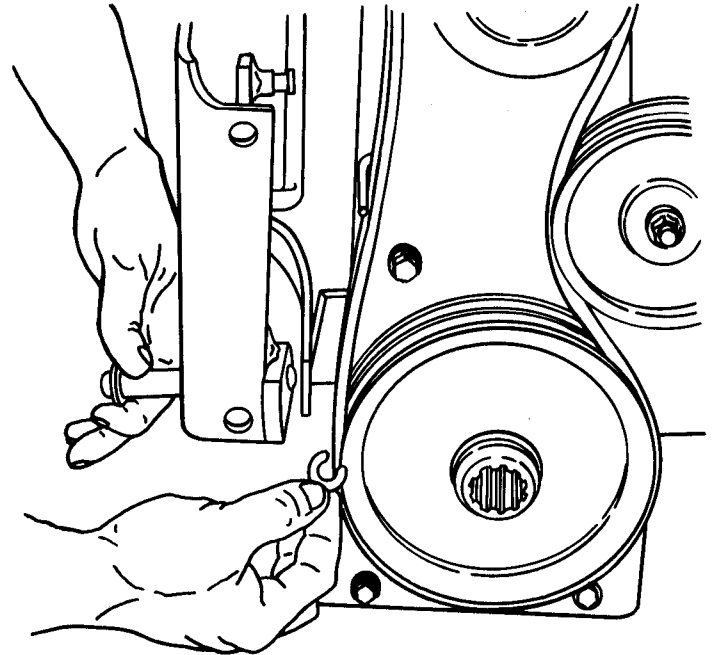
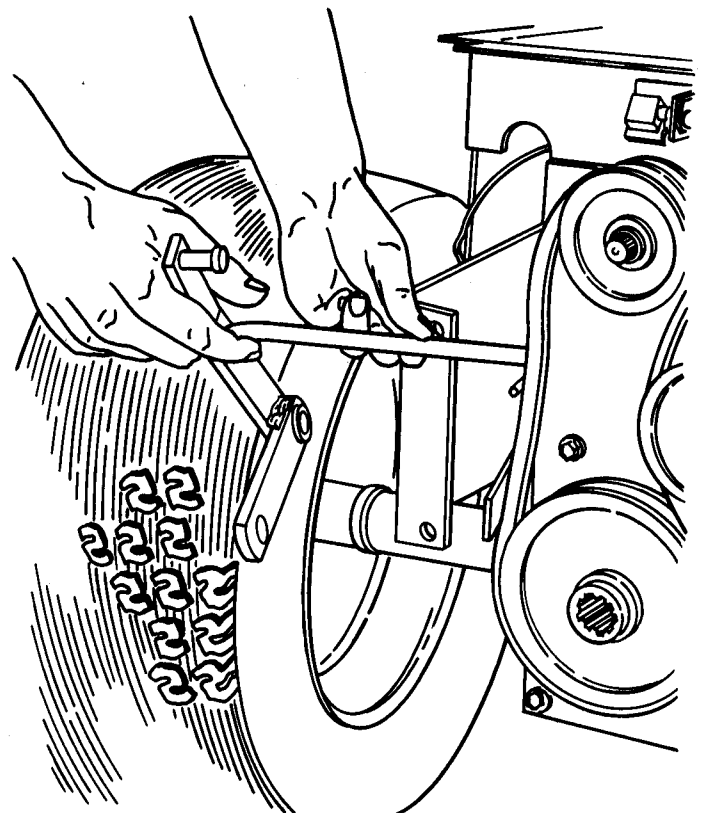

FIG. 2 - PULLING PIN-1600 SERIES
FIG. 3 - REMOVING REAR LIFT-1600
Step 2(A), 1600 Series Only: Remove the rear lift actuating mechanism components as follows: Move the implement lift handle all the way back to relieve tension on the assist spring, remove the spring by backing nuts off the spring bolt then remove this assembly. Pull the retaining ring on the inside of the pin shown in figure 2 then pull the pin out toward the outside as shown. Remove the lift rod from the implement lift by removing the cotter pin and sliding the rod out as shown in figure 3. Slide the rear lift assembly out thru rear of tractor frame.